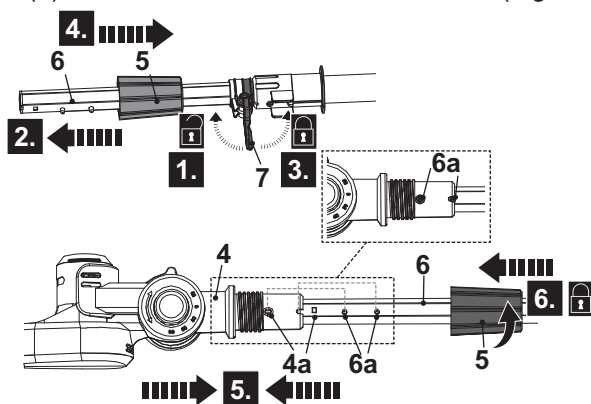

Fig. 1
1. Loosen the locking lever (7) (Fig. 1, step 1) and pull out the pole extension (6) (Fig. 1, step 2), then fasten the locking lever (7) (Fig. 1, step 3).
2. Move the locking sleeve (5) back onto the pole extension (Fig. 1, step 4).
3. Align the pole extension (6) with the pole support (4) and insert it. Make sure the pins (6a) snap in the bores (4a) for reliable connection (Fig. 1, step 5).
4. Fit the locking sleeve (5) on the thread of pole support (4) and tighten the locking sleeve (5) clockwise to secure the connections (Fig. 1, step 6).